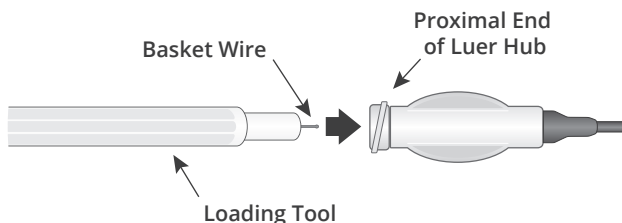

Figure 4
4. Insert the tapered tip of the basket loading tool into the proximal hub of the delivery catheter (see Figure 4).